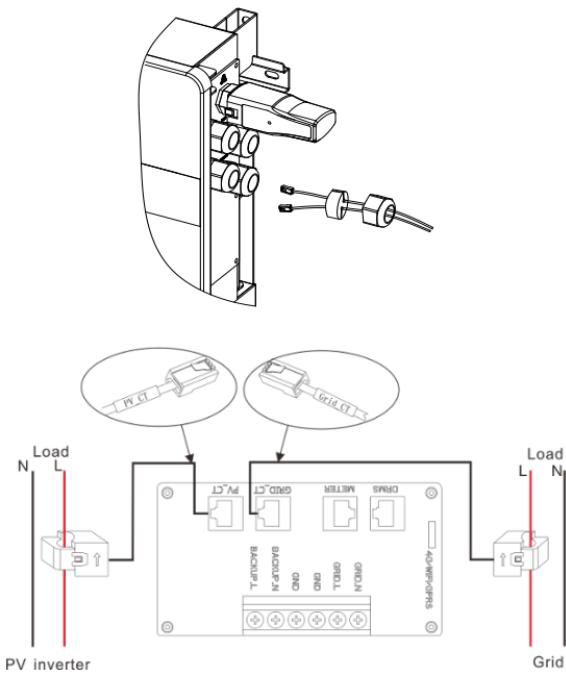

Fig. 4.13 CT installation
- 3) Lead the Live of the Grid through the Grid_CT (refers to Fig. 4.13).
- 8) Lead the Live of PV through the PV_CT (refers to Fig. 4.13).